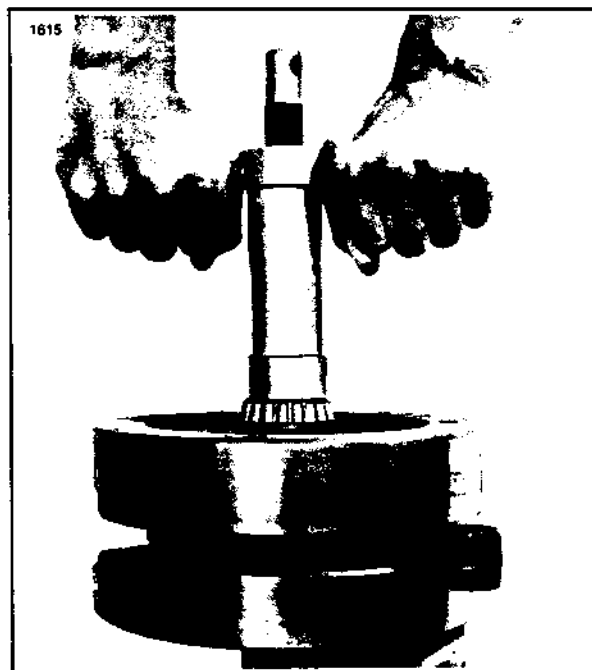

Figure 2. Pressing Bearing On Sprocket Shaft
2. See Figure 2. Position the flywheel assembly, sprocket shaft up, in a vise with copper jaws. Using BEARING INSTALLATION TOOL, Part No. HD 97225-55, press sprocket bearing half (6) onto the sprocket shaft.
A SPROCKET SHAFT SPACER, Part No. HD 24036-80, may be needed with the bearing installation tool as shown in Figure 2.